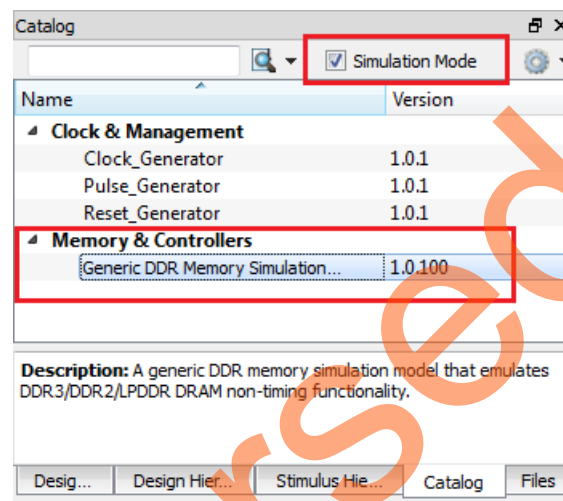

Figure 23 • Generic DDR Memory Simulation Model
3. Under **Memory and Controller**, select **Generic DDR Memory Simulation** model to drag into the SmartDesign testbench canvas. Figure 23 shows the Simulation mode.